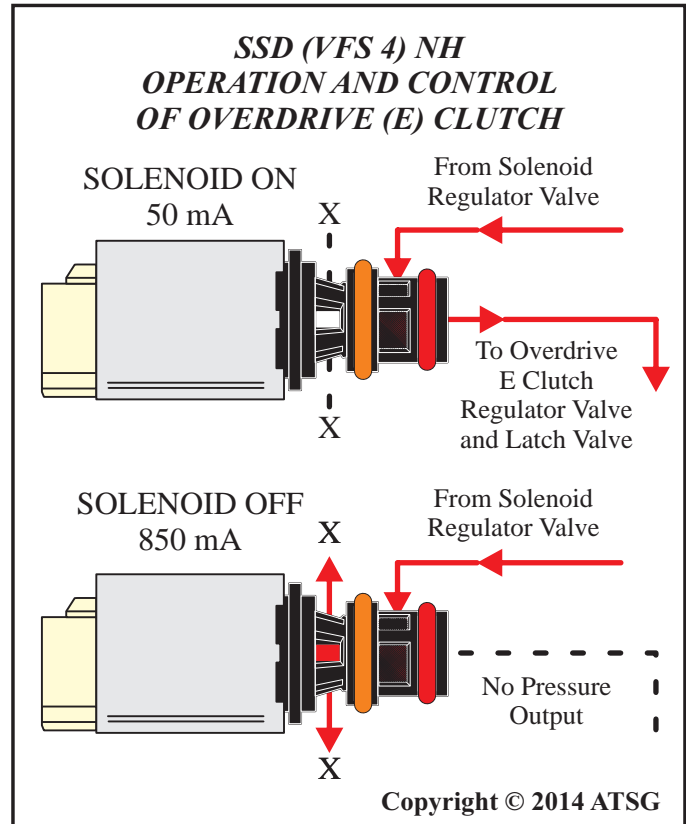
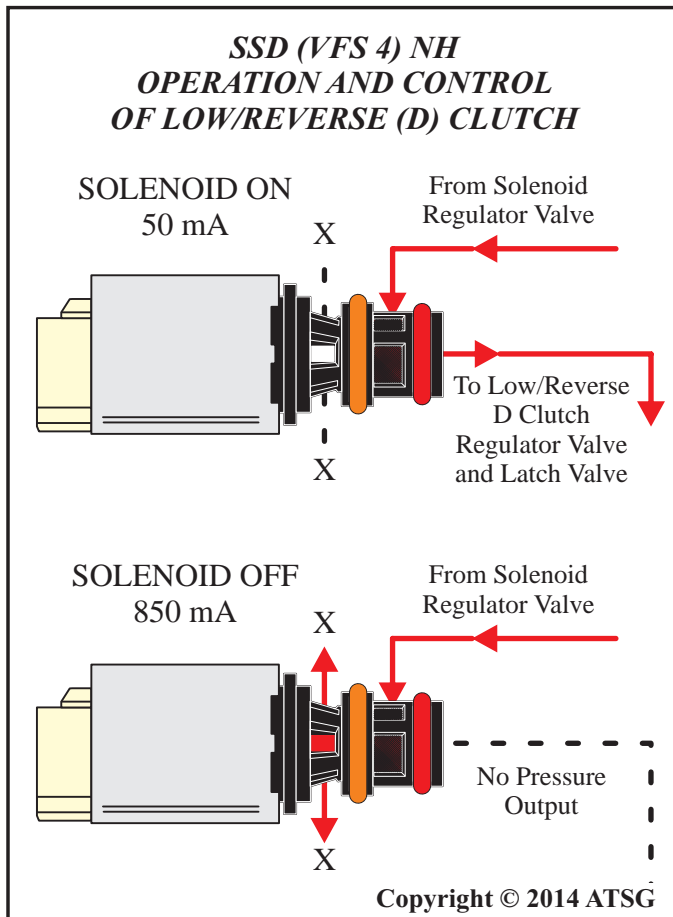

Figure 17
Figure 16
Shift Solenoid D, or Variable Force Solenoid 4 is a Normally High (NH) or normally applied solenoid and uses inversely proportional control. The Mechatronic Control Unit, or PCM will vary the control amperage through the solenoid circuit in order to control the output pressure through the solenoid. Refer to the solenoid apply chart in Figure 12. The chart shows SSD applied amperage of 850 mA when the solenoid is OFF and applied amperage of 50 mA when the solenoid is ON. SSD is a dual purpose solenoid. The ON/OFF chart in Figure 12 shows SSD ON in Reverse, Drive (1st/low) and Drive 4th, 5th, and 6th. This means SSD is used to control both the low/reverse (D) clutch and the overdrive (E) Clutch. The diagram in Figure 16 shows SSD function for the low/reverse (D) clutch. Hydraulic solenoid control pressure is supplied by the solenoid regulator valve in the main control assembly and is directed to the solenoid in the passage between the two o-rings. With control amperage of 50 mA, the control valve in the solenoid is closed and pressure not exhausted, instead control pressure is directed through the front of the solenoid and is used to control the apply and release of the low/reverse (D) clutch through the low/reverse (D) clutch regulator valve and low/reverse (D) clutch latch valve. With control amperage of 850 mA, the control valve in the solenoid is open and pressure is exhausted through the back of the solenoid. The diagram in Figure 17 shows SSD function for the overdrive (E) clutch. Hydraulic solenoid control pressure is supplied by the solenoid regulator valve in the main control assembly and is directed to the solenoid in the passage between the two o-rings. With control amperage of 50 mA, the control valve in the solenoid is closed and pressure not exhausted, instead control pressure is directed through the front of the solenoid and is used to control the apply and release of the overdrive (E) clutch through the overdrive (E) clutch regulator valve and overdrive (E) clutch latch valve. With control amperage of 850 mA, the control valve in the solenoid is open and pressure is exhausted through the back of the solenoid.